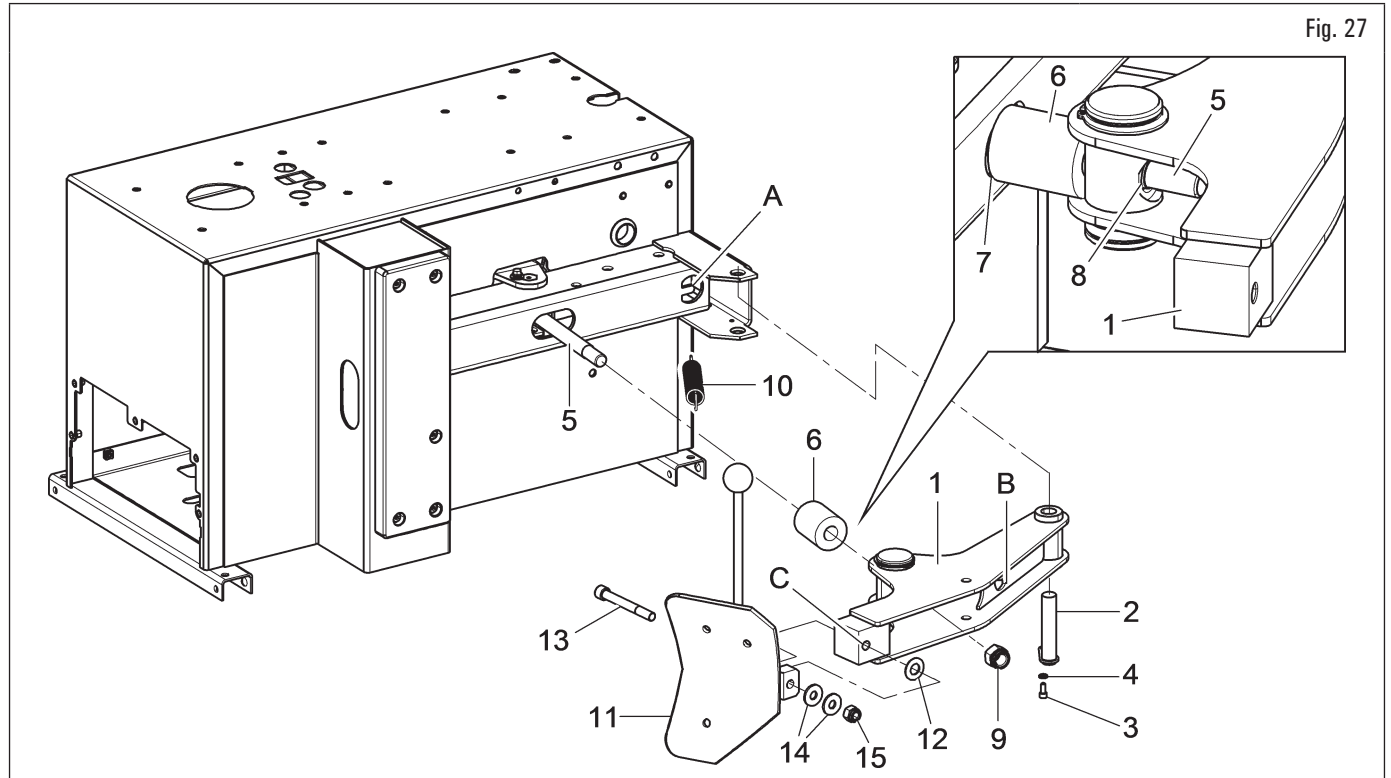

Fig. 27
1. Insert bead breaker arm end (Fig. 27 ref. 1) inside frame protruding part; install pin (Fig. 27 ref. 2). Lock pin using bolt (Fig. 27 ref. 3) and washer (Fig. 27 ref. 4);
2. insert the pad (Fig. 27 ref. 5) onto the rod (Fig. 27 ref. 6), bringing it to rest against the frame, in correspondence with the slot (Fig. 27 ref. 7). Insert rod inside special hole (Fig. 27 ref. 8) onto bead breaker arm (Fig. 27 ref. 1) then screw the self-locking nut (Fig. 27 ref. 9);
3. fit spring (Fig. 27 ref. 10), hooking ends in points (Fig. 27 ref. A) (onto frame) and (Fig. 27 ref. B) (onto arm);
4. position the shovel (Fig. 27 ref. 11) close to bead breaker arm end; insert inside point (Fig. 27 ref. C) the Belleville washer (Fig. 27 ref. 12). Secure the shovel (Fig. 27 ref. 11) to bead breaker arm using bolt (Fig. 27 ref. 13), washers (Fig. 27 ref. 14) and nut (Fig. 27 ref. 15).